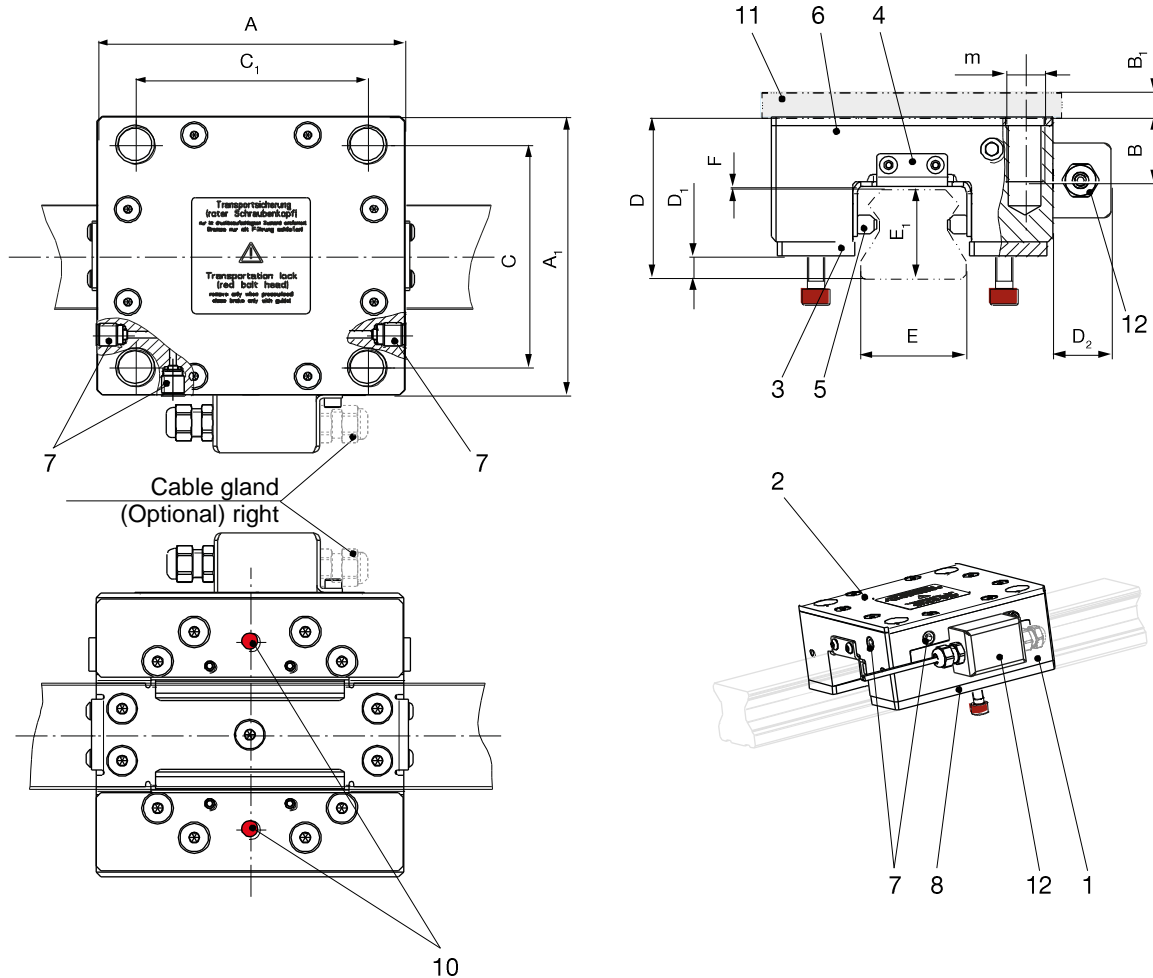

Fig. 2
- ☐ By pressure release the **ROBA®-guidestop**, the cup spring has an effect on the clamping element of the brake. The profiled rail is clamped (Fig. 2).